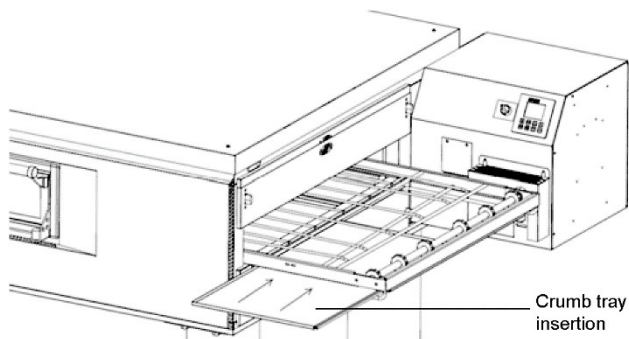

Figure 28. Crumb Trays
- 1. Install the crumb trays underneath the conveyor as shown in Figure 28.